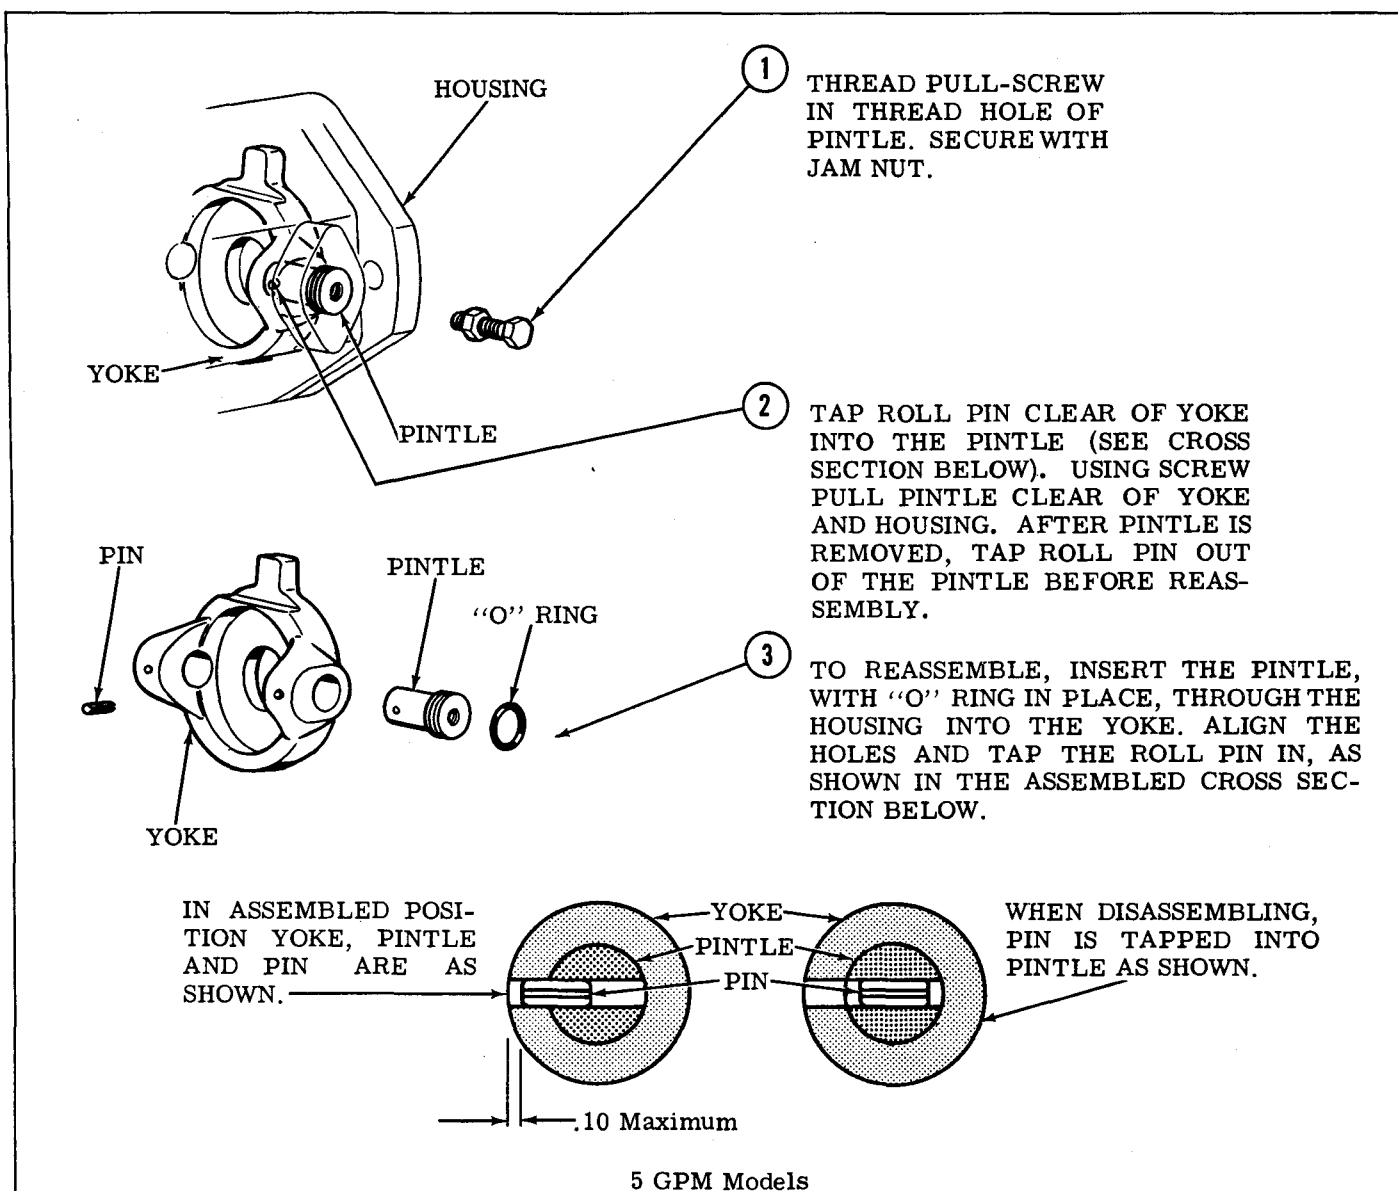

Figure 10
6. Yoke Removal - Figures 10 and 11 illustrate the procedure for removal of the yoke from a variable displacement unit. Yokes of the smaller units are similar in design to the larger units. Only the methods of retaining are different.
1. Yoke - Install the yoke in the housing as illustrated in Figure 10 or 11.